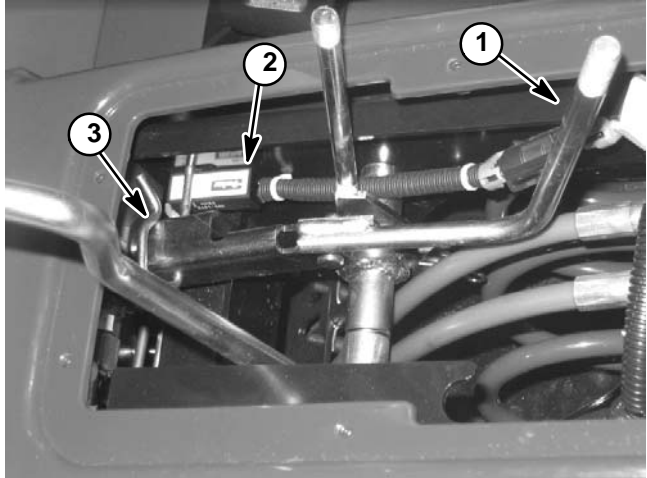

Figure 15
The lift lever interlock switch is a normally open proximity switch that is attached to the control lever support (Fig. 15). The interlock switch is in its normal open position whenever the hydraulic lift lever is moved away from the neutral position. When the lift lever is in the neutral position, the lift lever linkage is positioned close to the interlock switch causing the switch to close. The lift lever interlock switch is used in the starting system to make sure that the hydraulic lift circuit is disengaged during engine starting.
3. Locate the lift lever interlock switch (Fig. 15).
5. With the use of a multimeter (ohms setting), test for continuity across the two (2) switch terminals. There **should be** continuity (zero ohms) when the lift lever is in the neutral position and there **should not be** continuity (infinite ohms) when the lift lever is out of the neutral position.